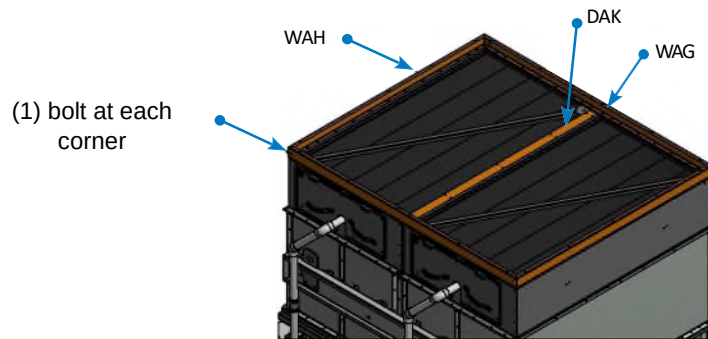

Figure 40. Positive closure damper sub frame
3. On multi module units install the positive closure damper sub frame by first installing plate DAK in **Figure 40** between each module within the positive closure damper frame using the following hardware.